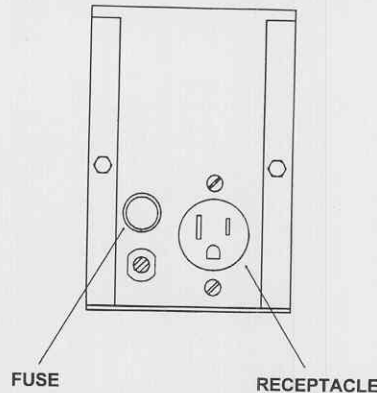

Figure 3-16. Electrical receptacle (115 volts).
b. Remove the coiled electrical power cable assembly from the cable clips mounted on the rear of the upright assembly. Then, connect it into the 115-volt electrical receptacle on the rear of the transformer (fig 3-16).